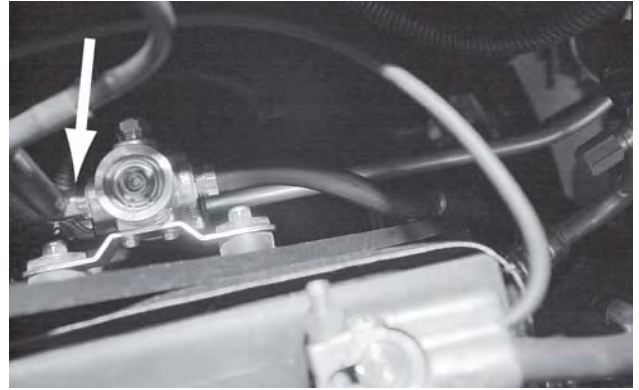

Fig. 17a
- a. Route the ¼ inch I.D hose to the 90° elbow on solenoid port #1. (see figure 17a)